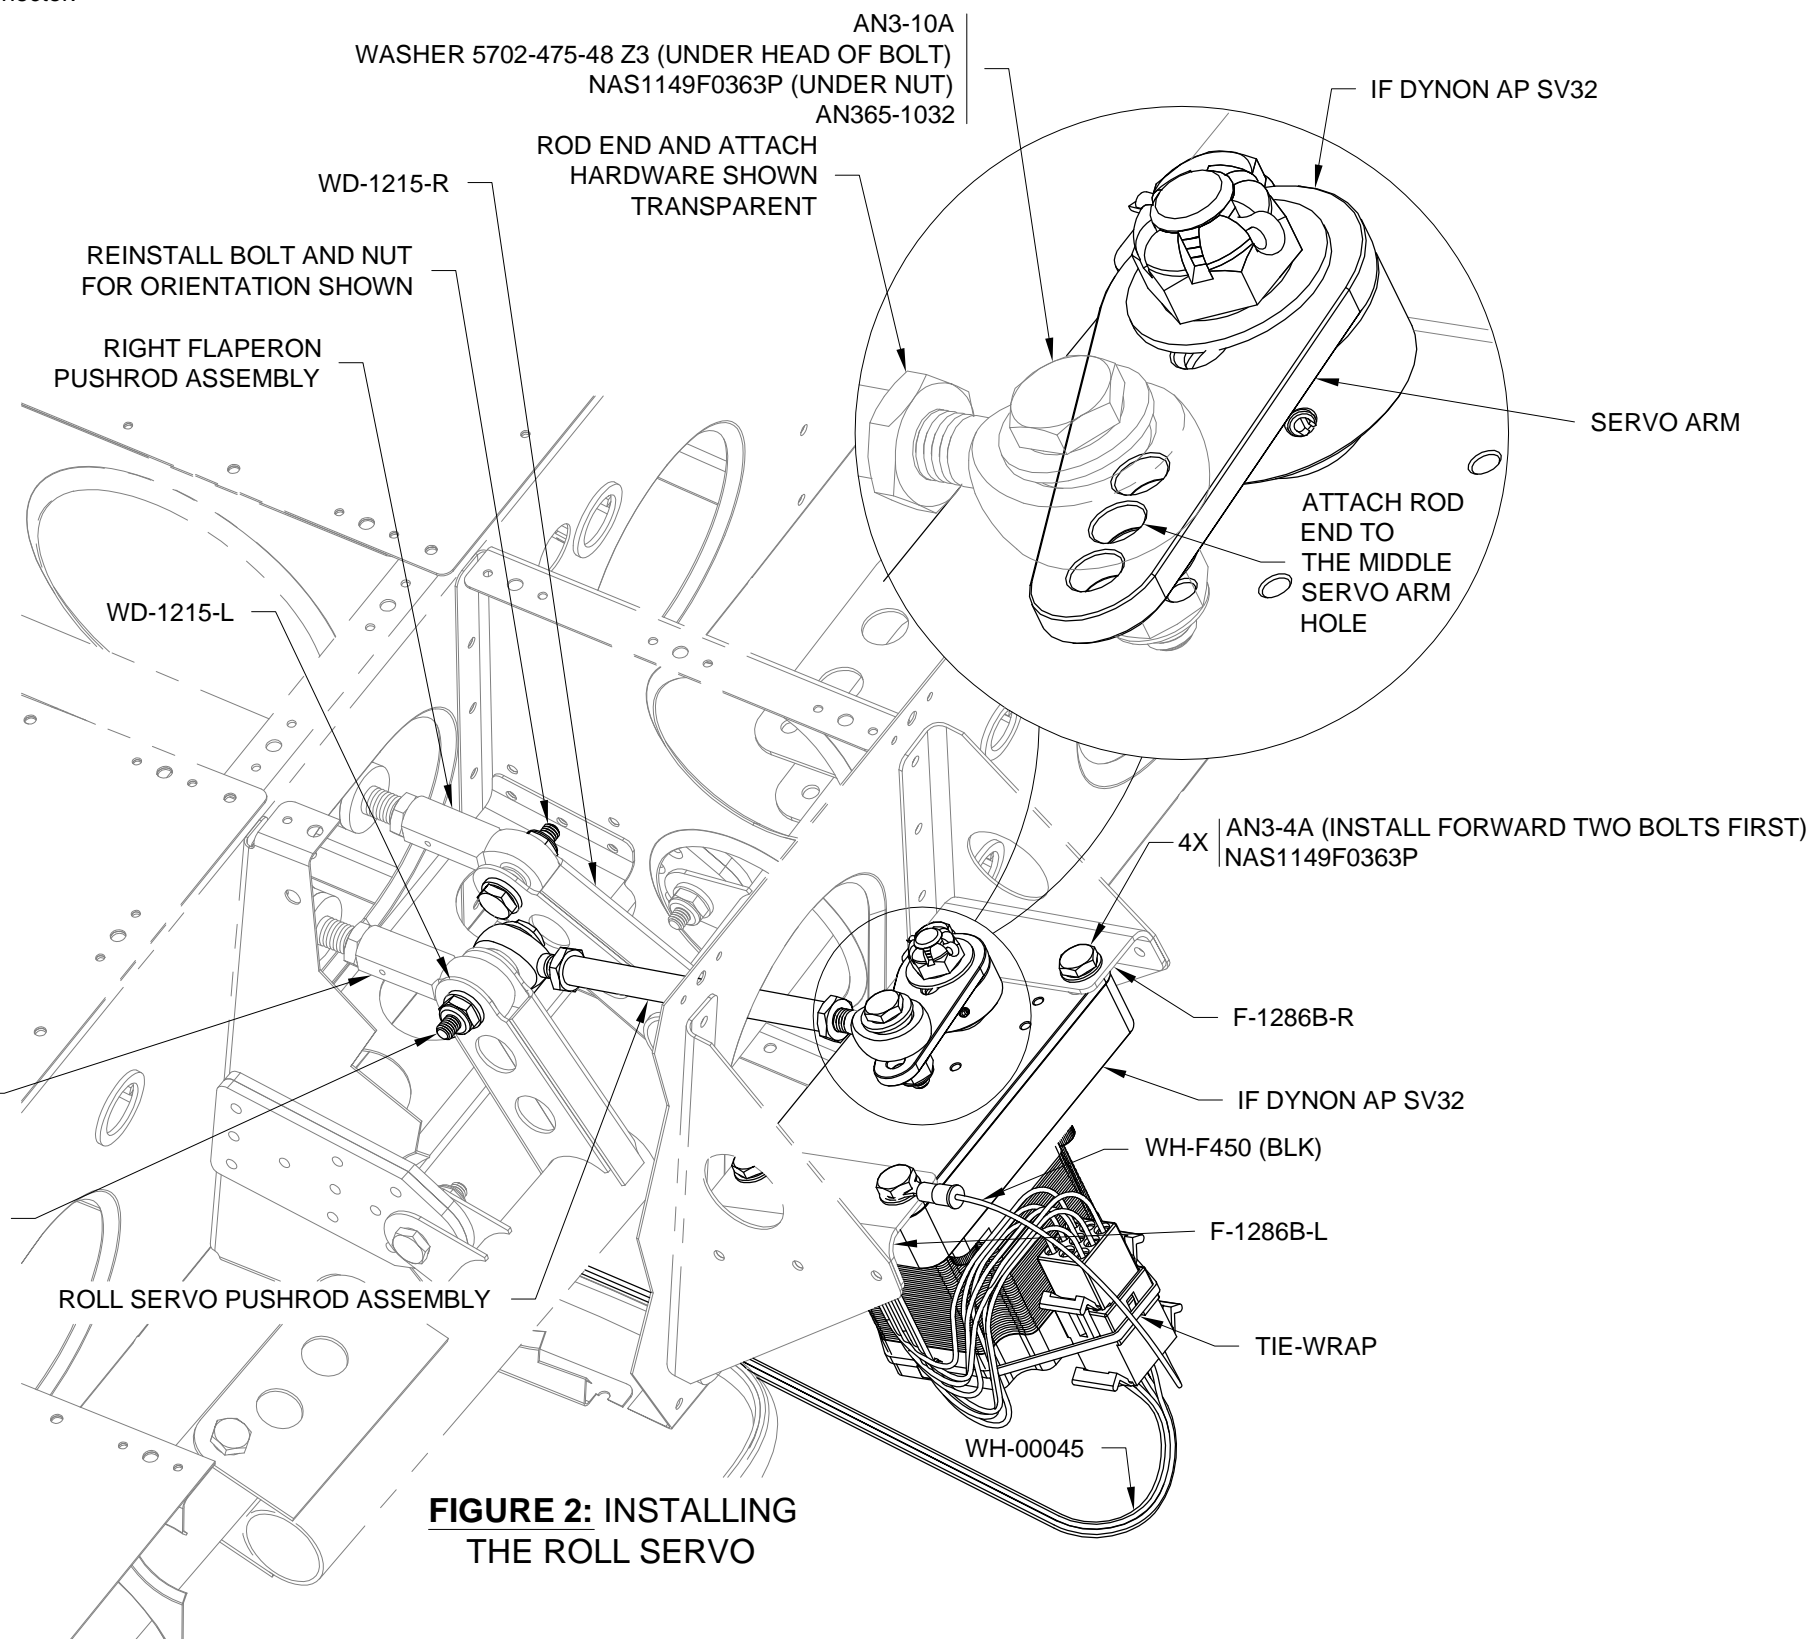

FIGURE 2: INSTALLING THE ROLL SERVO
Step 7: Install a tie-wrap around the IF DYNON AP SV32 Autopilot Servo to secure the Molex connectors as shown in Figure 2.
Step 9: Using new hardware provided, attach the Roll Servo Pushrod Assembly and Flaperon Pushrod Assembly to the WD-1215-L Flaperon Torque Arm. See Figure 2.
Step 10: Reinstall the bolt and nut used to attach the right Flaperon Pushrod Assembly to the WD-1215-R Flaperon Torque Arm for the orientation shown in Figure 2.